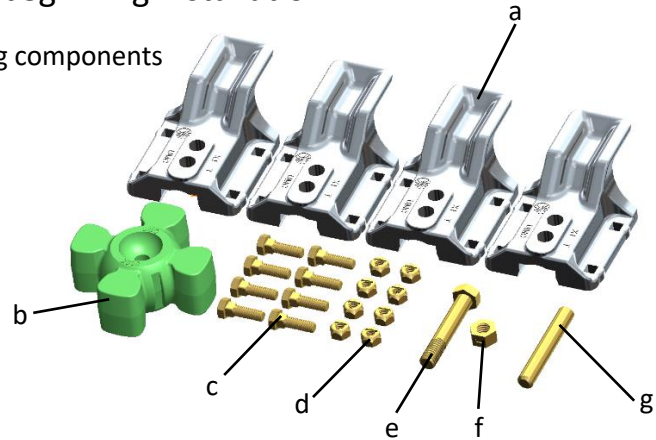

Figure 1: Coupler kit components.
- Each UMC coupler kit comes with the following components and quantity as shown in Figure 1: